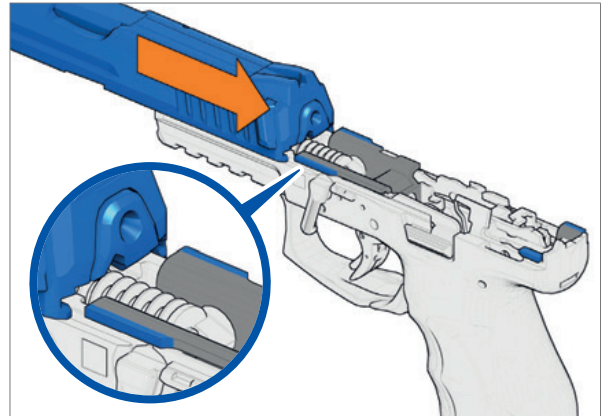

Fig. 57: Push slide over guide-rails
5. Place slide onto frame from above and push over the guide-rails of the frame (*Fig. 57*).